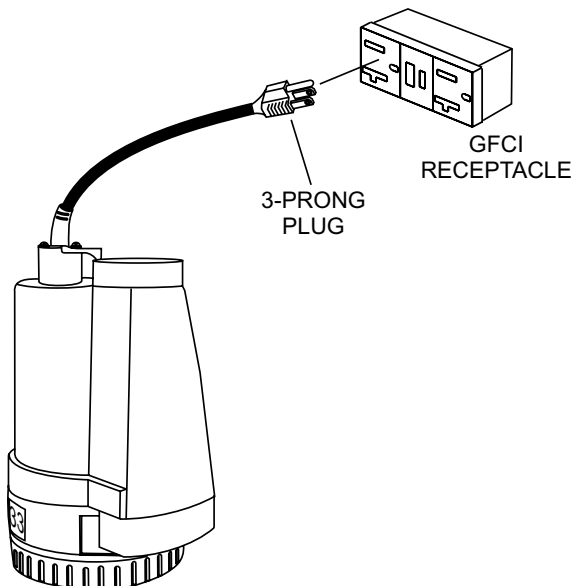

Figure 5. Connecting the Power
5. If all of the pump's electrical requirements have been met, insert the power plug (Figure 5) on the pump into the power source receptacle. Make sure the extension cord is of proper size, see Table 3. It is recommended that the pump's power cord be plugged into a GFCI receptacle to prevent the possibility of electrical shock.